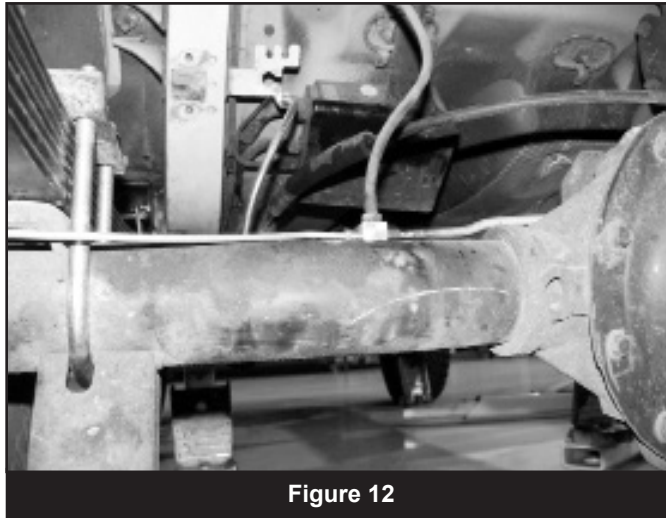

Figure 12
57. Install new BDS rear brake line (22512) in place. Torque to 25 ft-lbs. (Fig 12)